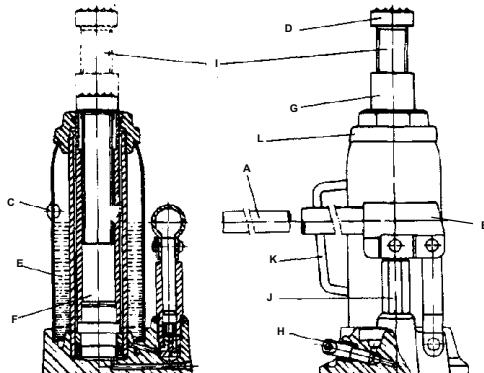

FIG. 3
## KNOW YOUR JACK (refer to Fig. 3, page 4)
## HOW TO USE YOUR JACK (refer to Fig. 3, page 4)
- Remove oil filler plug (see Fig. 3).
- To drain oil, remove oil filler plug and open release valve (see Fig. 3).
- Check ram and pump plunger (see Fig. 3) every few months for any signs of rust or corrosion. Clean as needed by wiping with an oily cloth.